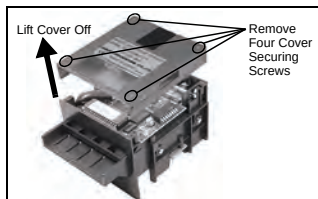

Figure 3-3 CPU Board Cover Removal
4. Remove the four screws securing the CPU Cover, and remove the cover (See Figure 3-3).